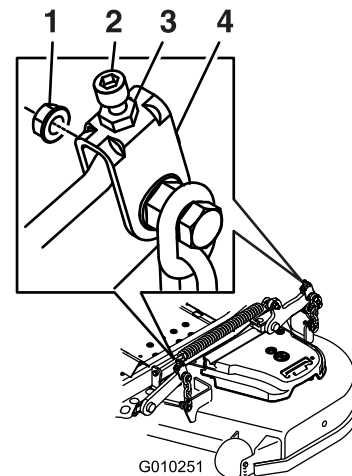

Figure 93
10. Fine-tune the adjustment nut on the front deck-lift assembly by turning it (Figure 93).
16. Fine tune the screw adjuster by turning it to get 8.3 mm (3-1/4 inches) height (Figure 93).